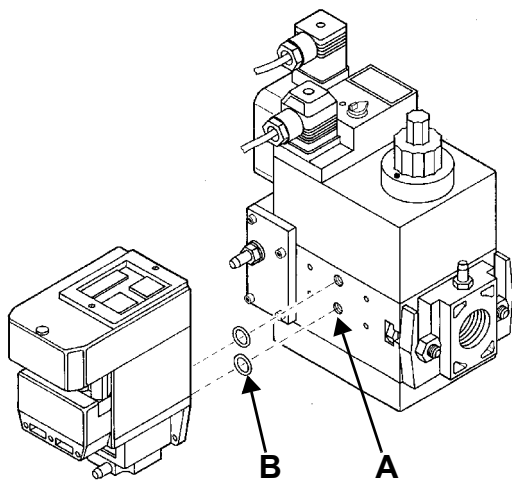
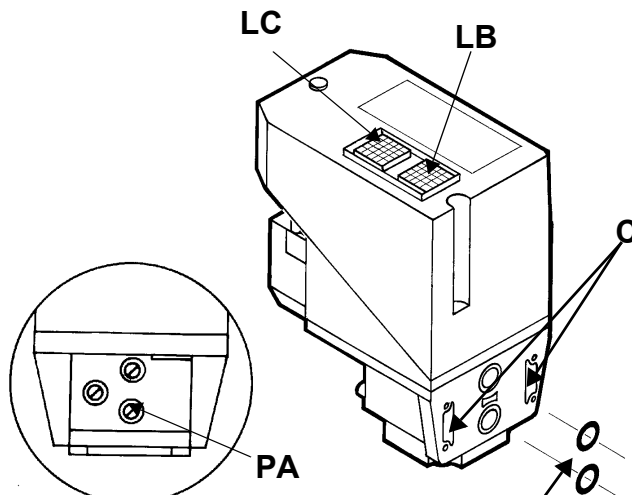

Fig. 20
Fig. 21
- 3 remove the Multibloc's screw plugs (Fig. 20-A);
- 4 insert sealing rings (10,5 x 2,25) into VPS 504 (Fig. 21-B, Fig. 20-B)
- 5 Torque screws 3, 4, 5, 6 (M4 x16) Fig. 20-C
When wishing to monitor the test, install a pressure gauge ranged to that of the pressure supply point **PA** (Fig. 21). If the test cycle is satisfactory, after a few seconds the consent light **LC** (yellow) comes on. In the opposite case the lockout light **LB** (red) comes on. To restart it is necessary to reset the appliance by pressing the illuminated pushbutton **LB**.